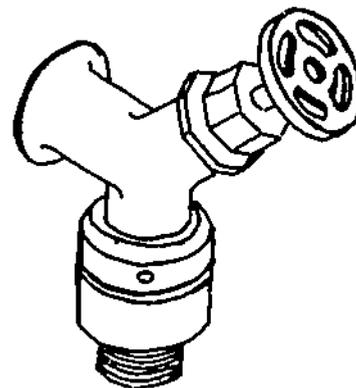

Figure 30-3. Atmospheric Vacuum Breaker. Style for Hose Bibb Application
- a) Double Check Valve Type (Figure 30-3).